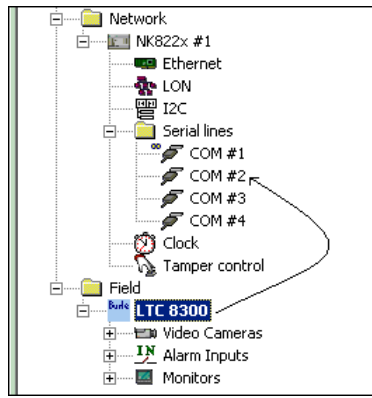

Fig 31 Linking Philips/Burle switcher to NK822x port
3. Drag and drop the node to the network port devoted to Burle/Philips unit (see Fig 31).